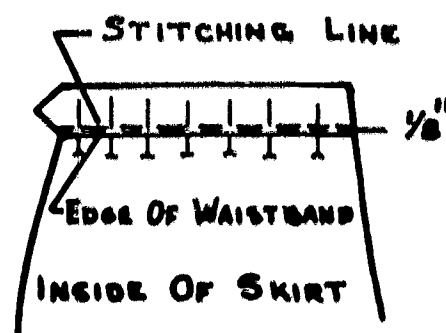

Figure 39.
13. Turn the band to the inside of the skirt. Fold the raw edge under and pin so that the folded edge extends about 1/8 inch over the line of stitching made when the waistband was stitched to the skirt (see Figure 39).